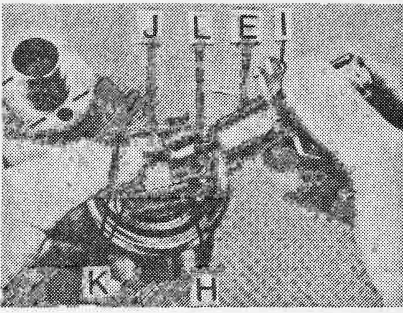

Fig. 10-6.
6. Refer to Figs. 10-6 and 10-7. In order to free the plunger unit (L) as you remove this assembly, it is necessary to push the slide (J) all the way to the rear against the compression of the two slide springs (K) with your thumb.
7. After the inside spindle (E), thrust plate (I), and plunger assembly (L) have been removed, let the slide (J) and the two slide springs (K) ease forward gradually and remove them from the lock frame (H).